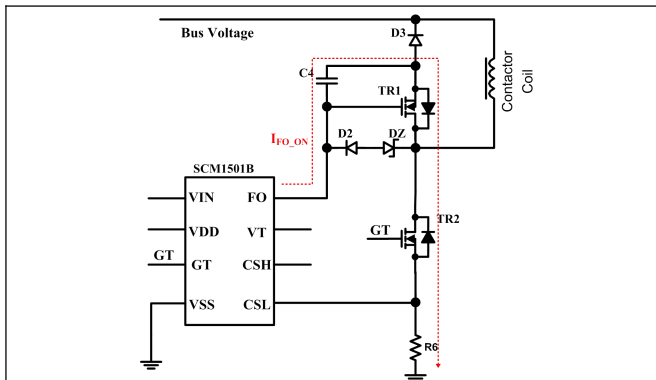

Fig. 6 Start-up circuit schematic
(1) Figure 6, the working principle of the chip startup, see the working principle diagram of the startup process. After the chip is started, the GT will output a high level, and the FO will continue to output a current-driven MOS transistor TR1. FO charges the gate of MOS transistor TR1, and the current I_{FO_ON} path is as follows: When MOS transistor TR2 is turned on, the FO pin charges capacitor C1 through the body diode of MOS transistor TR1 and MOS transistor TR2. Each time the MOS transistor TR2 is turned on, the FO pin will charge the capacitor C1. Therefore, in the Pick-up and Holding stages, the MOS transistor TR1 is turned on all time.